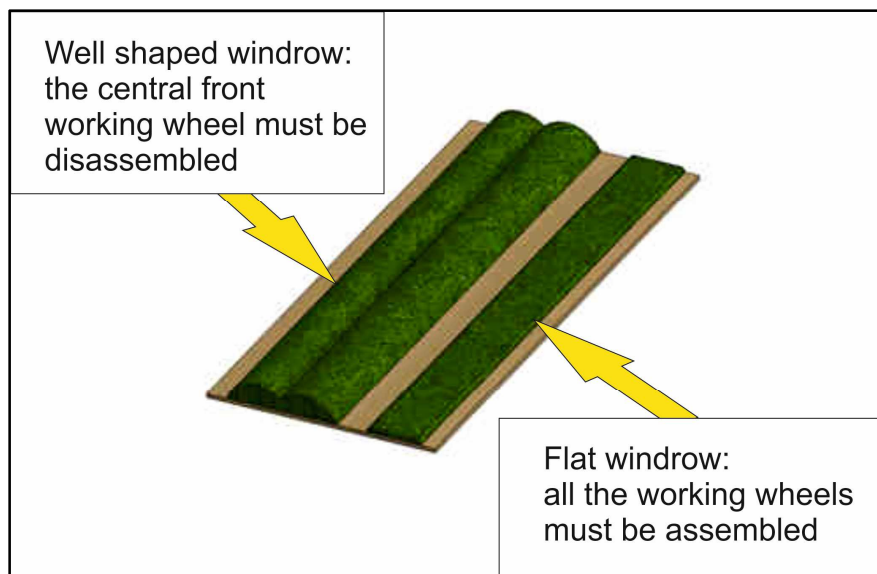

Figure 30
- Move the rake forward until all the four swivel wheels are aligned with the moving direction (*as they are in Figure 30*)